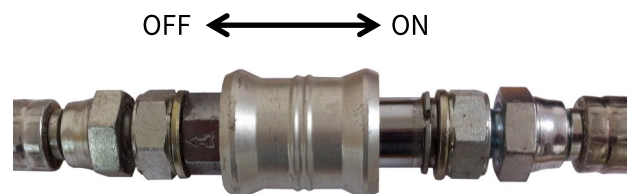

Figure 21
5.16 Switch on the air at the compressor. Switch on the air at the Lubricator Unit using the Air Power On/Off button. The orange centre button turns the air on and the black outer rim button switches the air off. Figure 21 shows the Air Power button in the ON position. If necessary increase pressure by pulling the regulator upwards and turn clockwise.